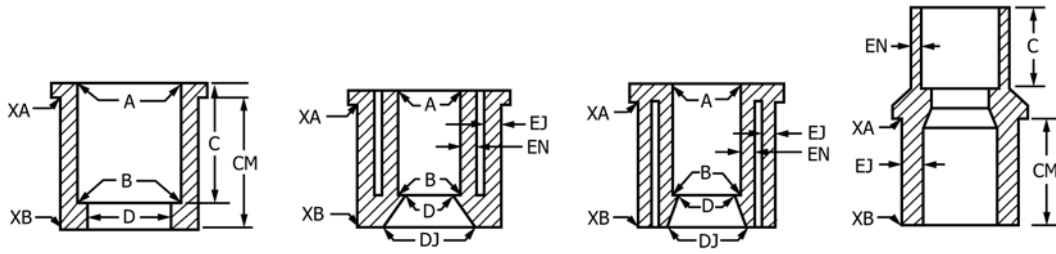

FIG. 1 Reducer Bushings-Socket
- XA = male end of spigot at top, see Fig. 1,
- XB = male end of spigot at bottom, see Fig. 1